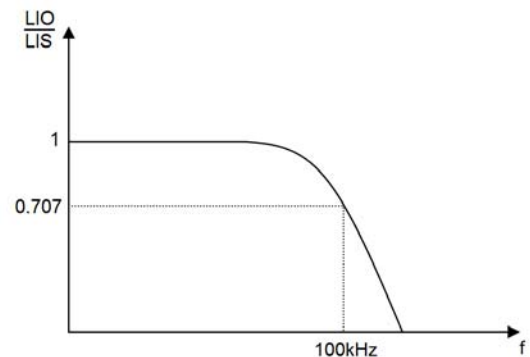

Figure 9.2. The Ratio of LIO/LIS
then measure the AC voltage on LIS and LIO. The AC voltage ratio of LIO (AC)/LIS (AC) is 0.707 at the frequency of around 200kHz, see Figure 9.2